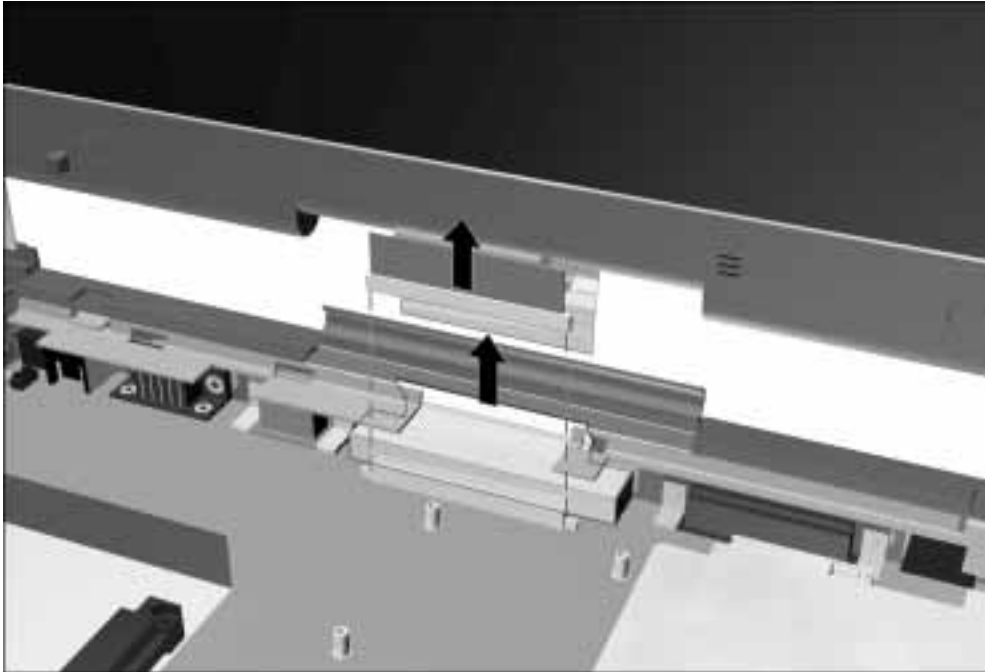

Figure 5-34. *Disconnecting the Display Cable*
7. Disconnect the display cable from the system board (Figure 5-34).